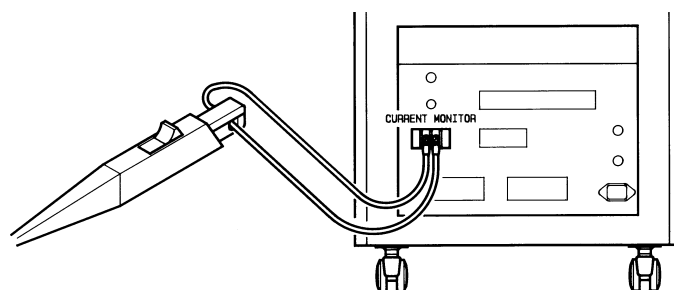

Fig.4-1 Connect an electrical wire for a current-measuring probe
3. Connect an electrical wire for a current-measuring probe as Fig. 4-1.